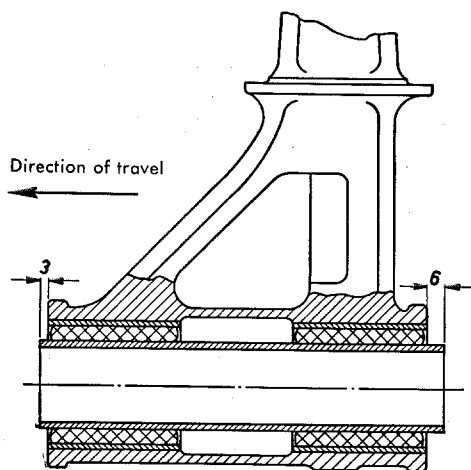

Fig. 35 — 4/16
When the buffer block is being **installed** in the support, care must be taken to ensure that the end of the sleeve which projects 6 mm, points toward the rear (Fig. 35 — 4/16).
53. Turn the connecting pin to the point where the groove (20) is exactly horizontal (see Fig. 35 — 4/14 a).